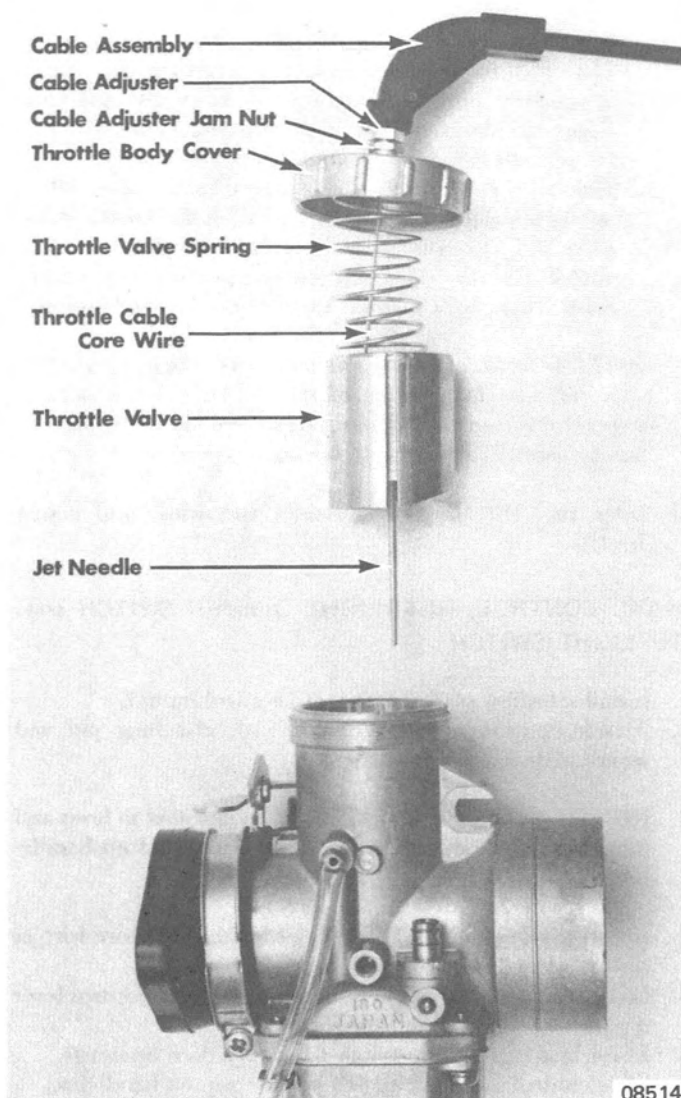

Figure 1. Throttle Cable Removal/Installation
- a. Unscrew throttle body cover and lift throttle body cover, spring, jet needle and throttle valve from carburetor as an assembly. (Figure 1)
- g. Install throttle valve and cover assembly into carburetor. (Figure 1) Tighten throttle body cover securely.